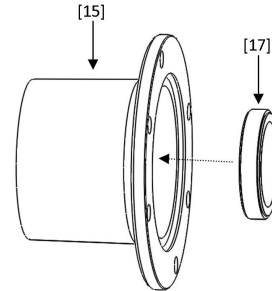

Figure 4: Step 5 illustration
4) Press the [37] bronze labyrinth seal provided with the bearing frame into the [5] pump adapter (GX8406591) follow the orientation shown in Figure A. Put the large O-ring (GX5508140) around the 5.9" diameter rim (surrounding the labyrinth seal). Affix the adapter to the bearing frame assembly using (4) 5/8-11 x 1.5 UNC bolts (GX5507120) – tighten the bolts evenly and gradually.
5) Press the stationary portion of the 2-3/4" elastomer-bellows seal into its pilot in the seal housing by hand or with a plastic pipe. Do not use hard objects on the seal face. Refer to Figure 4.